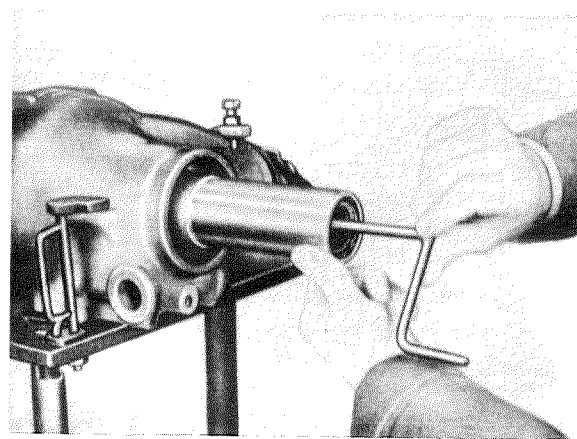

Fig. 35 — 4/39
Attach the slip coupling (24) with the clamping screw (22) to the right differential (21) (see Fig. 35 — 4/21 and Fig. 35 — 4/39).
105. Install the bleed screw (13) in the left axle tube (see Fig. 35 — 4/21). Use Installing Arbor 180 589 03 39 to press or drive a new seal into the axle tube as far as the collar (see Fig. 35 — 4/23).